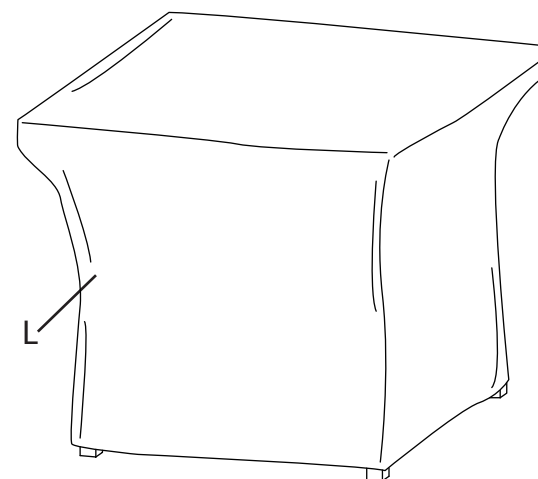

Figure 11
11. Cover the fire pit with the outdoor weather cover (L) when not in use to protect it from the elements or when fire pit is cool COMPLETELY after the use, (see Figure 11).